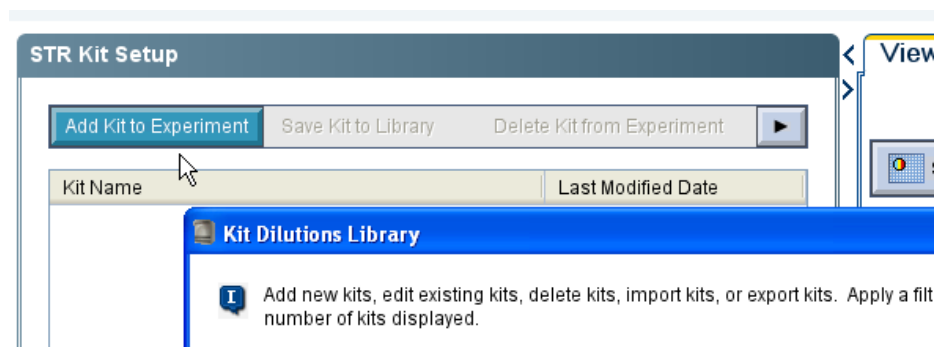

Figure 33 Add a kit to the experiment
3. In the STR Kit Setup area, click **Add Kit to Experiment** to open the Kit Dilutions Library (Figure 33).